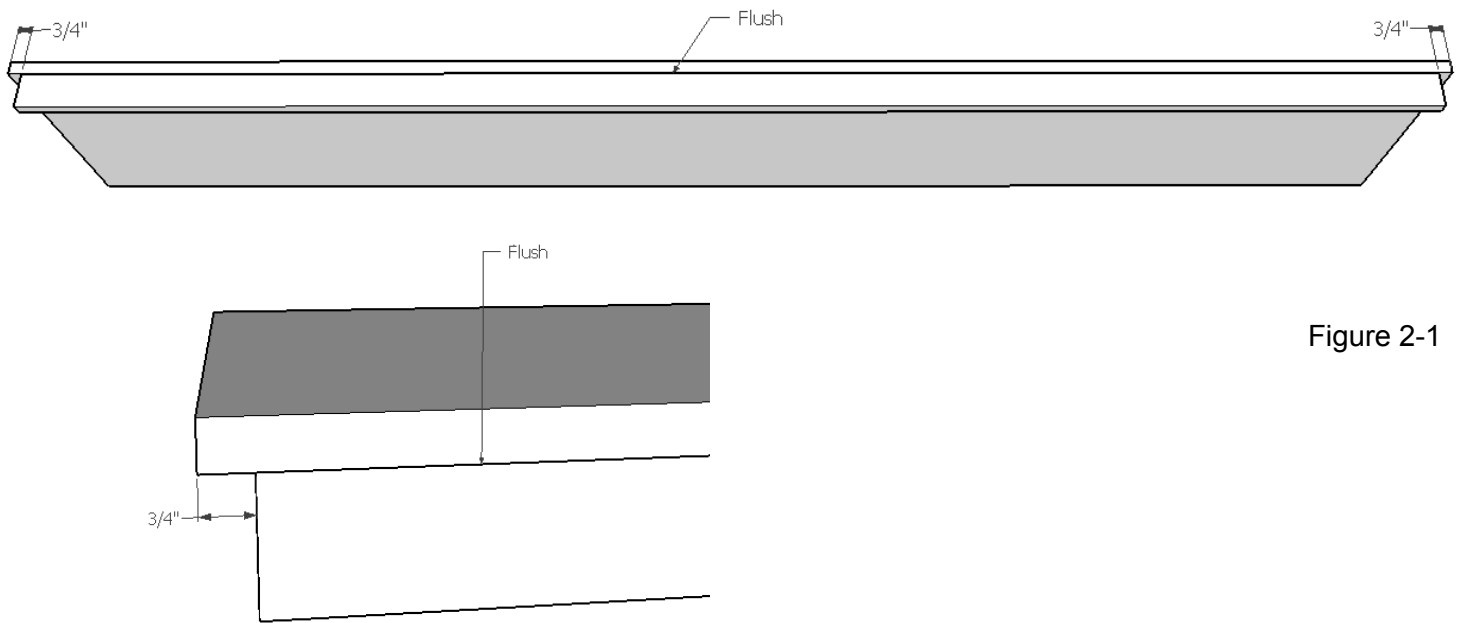

Figure 2-1
2-1 Attach the Top Facia to the Top Panel with glue and 1 ¼" finish nails. Make sure the banded edge of the (D) Top Facia is down and the Top Fascia is attached to the banded edge of the Top Panel. Flush with the front and ¾" off each side (see figure 2-1)